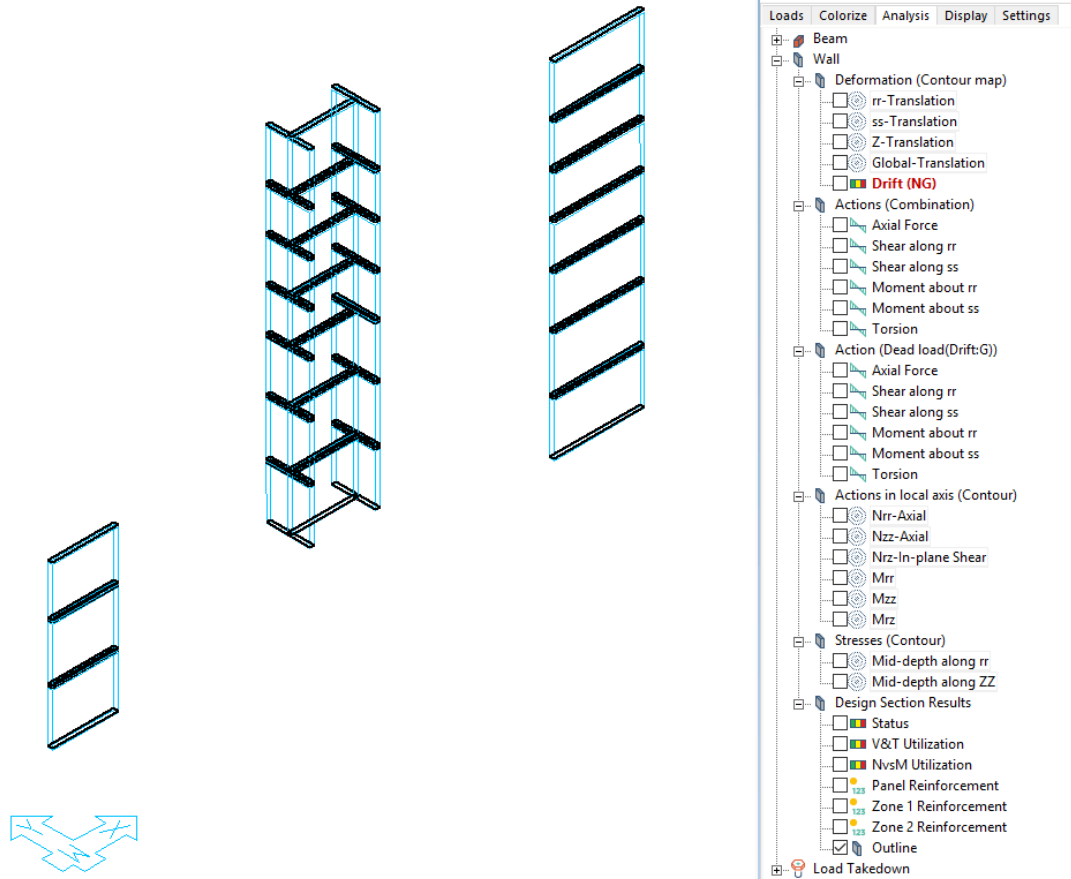

Figure 17-1
- Go to *Wall Design* → *Sections* and click on the *Generate Wall Sections*  icon. This step will produce a unique wall section cut at the top and bottom of each wall belonging to the piers. **FIGURE 17-1** shows the section cuts for all piers. Note the section cuts will be displayed automatically. To hide the cuts, in the *Results Browser*, go to the *Analysis* tab and select *Wall* → *Design Section Results* → *Outline*.